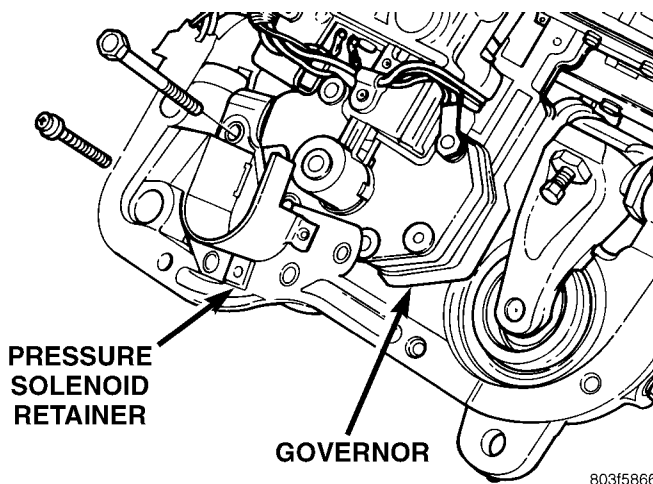

Fig. 42 Governor Body And Retainer Plate Attaching Screw
- (3) Remove screws attaching governor body and retainer plate to transfer plate (Fig. 42).